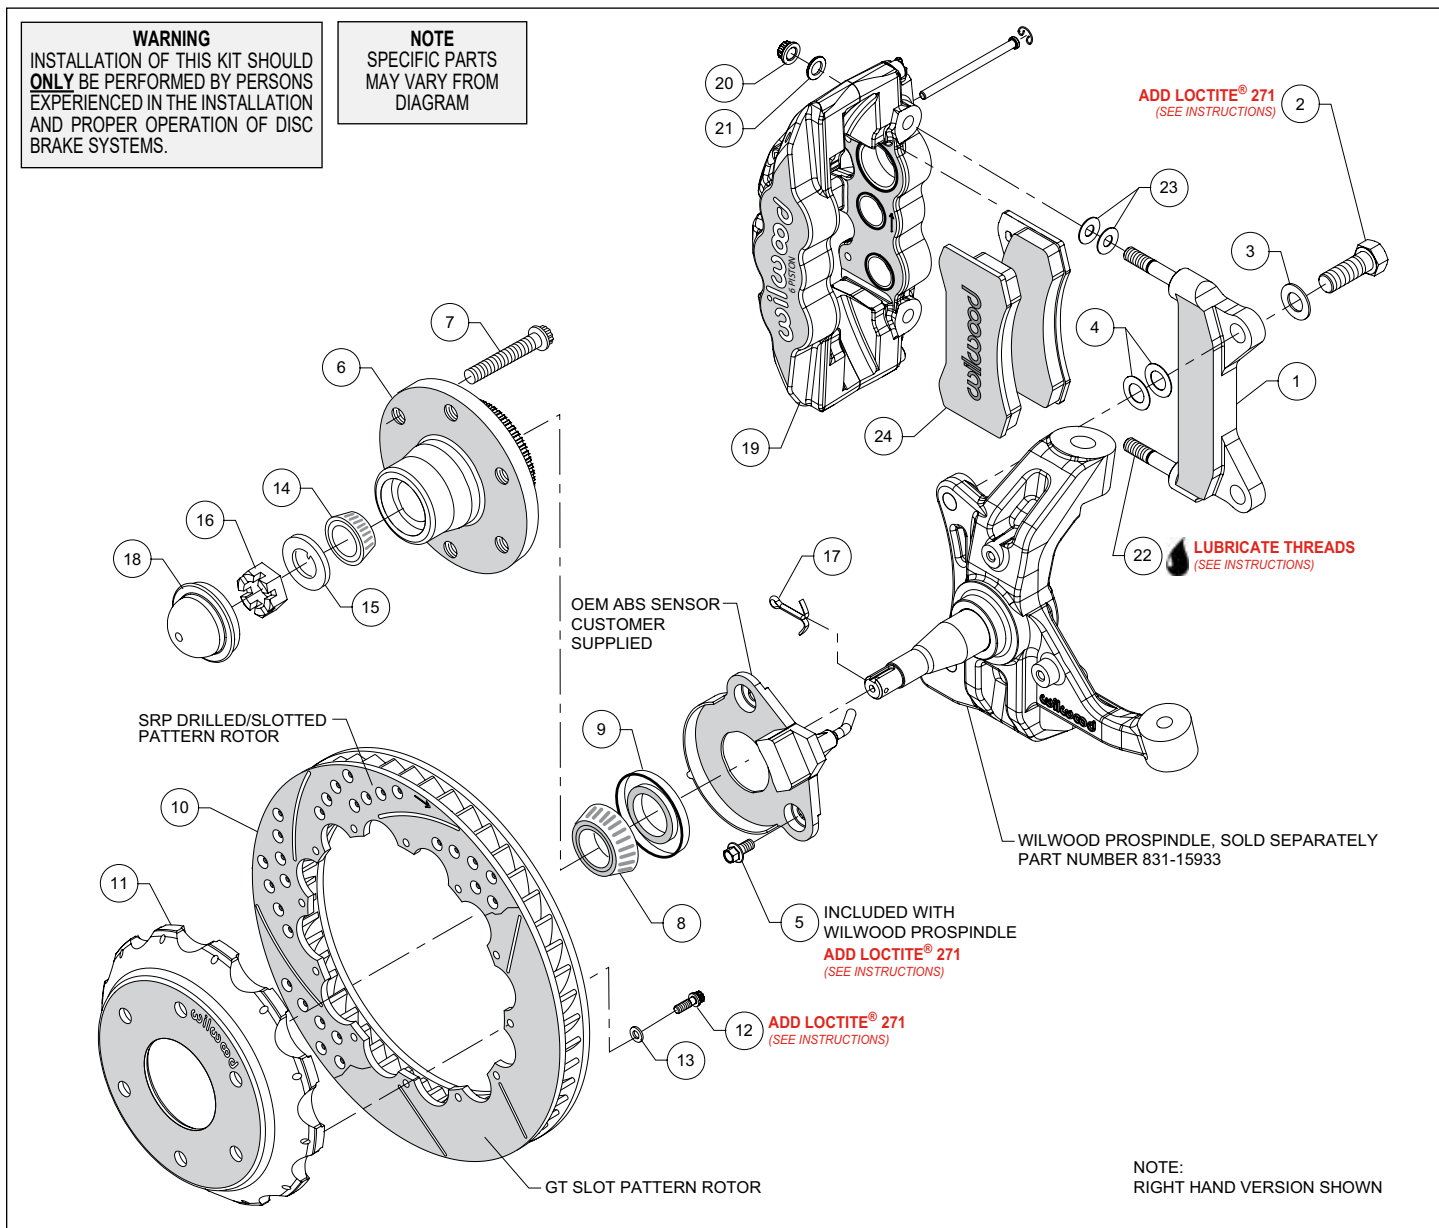
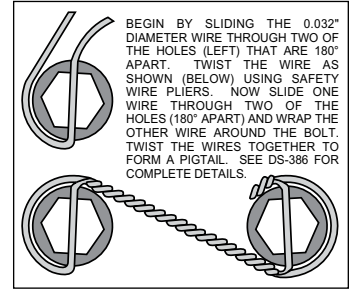

Figure 1. Typical Installation Configuration
Figure 3. Safety Wire Diagram
NOTE: Numbers in parenthesis refer to the parts list and Figure 1 on the preceding pages.
- For vehicles equipped with ABS, install the OEM ABS sensor (customer supplied) to the spindle using bolts (5) as shown in Figure 1 and Photo 3. Temporarily tighten the mounting bolts. **NOTE: The sensor must fit squarely against the mount bosses on the spindle.** Inspect for interference from casting irregularities, machining ridges, burrs, etc. Remove the bolts one at a time and apply red *Loctite*® 271 to the threads, and torque to 20 ft-lb.
- The caliper mount bracket (1) should initially be installed with clean, dry threads on the mounting bolts. Orient the bracket, as shown in Figure 1 and Photo 4, and install using bolts (2) and washers (3). Initially place two .024" thick shims (4) on each bolt between the bracket and spindle, Figure 1. Temporarily tighten the mounting bolts. **NOTE: The bracket must fit squarely against the mount bosses on the spindle.** Inspect for interference from casting irregularities, machining ridges, burrs, etc. Later, after the caliper alignment has been checked, the mount bolts will be secured using red *Loctite*® 271.
- Press the dust cap (18) into the hub (6). **NOTE: Do not hammer center of cap. Install using outer flange only.**
- Orient the rotor (10) and the hat (11) as shown in Figure 1 and Photo 9. Attach rotor to hat using bolts (12) and washers (13). Using an alternating sequence, apply red *Loctite*® 271 to the threads, and torque to 155 **in-lbs**. For an added measure of security, the bolts may be safety wired using standard 0.032 inch diameter stainless steel safety wire as shown in Figure 3. Refer to Wilwood's data sheet DS-386 (available at www.wilwood.com/Pdf/DataSheets/ds386.pdf) for complete safety wire installation instructions.
- NOTE: This kit contains distinct right and left hand calipers that must be mounted in a specific direction, as described below.** Lubricate the caliper mounting studs (22) with lightweight oil. Initially place two .030" thick shims (23) on each stud between the caliper and the bracket, as shown in Figure 1 and Photo 11. Mount the caliper (19) onto the bracket (1) using lock nuts (20) and washers (21), Figure 1. Temporarily tighten the lock nuts. Ensure that the caliper is mounted so that the largest pistons are at the rotor exit end of the caliper, in relation to the direction of rotor rotation. View the rotor through the top opening of the caliper. The rotor should be centered in the caliper, Photo 12. If not, adjust by adding or subtracting shims (4) between the bracket and the spindle. Always use the same amount of shims on each of the two mounting bolts. Once the caliper alignment is correct, remove the bracket mounting bolts one at a time, apply red *Loctite*® 271 to the threads, and torque to 140 ft-lb.
- Remove the caliper (19), then remove the two pad retaining pins from the caliper by carefully popping out the pin retaining clips and sliding out the pins. Insert the brake pads (24) into the caliper from the bottom, Figure 1 and Photo 13. With the friction material facing the rotor, secure the brake pads in place with the pad retaining pins and clips, Photo 14. Reinstall the caliper onto the caliper mounting bracket and temporarily tighten the lock nuts. Check that the top of the brake pad is flush with the outside diameter of the rotor, Photo 15. If not, adjust by adding or subtracting shims (23) between the caliper and the bracket. After the caliper pad height is set, torque the caliper lock nuts (20) to 47 ft-lb.